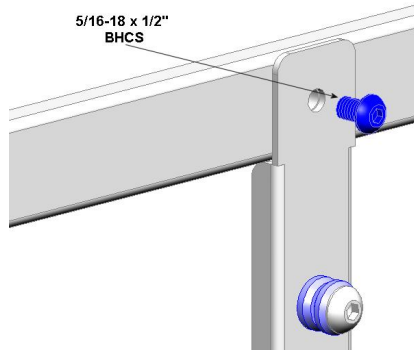
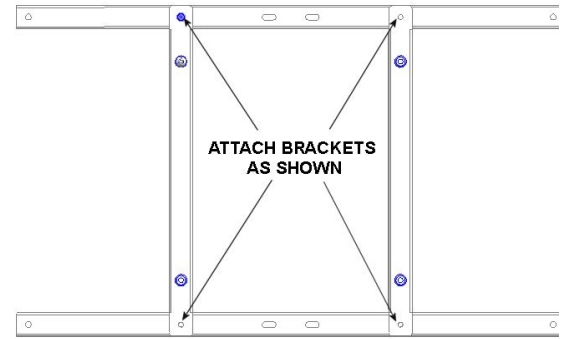

Figure 3
Figure 4
2. Attach the uprights to the upper and lower brackets using the 5/16-18 x 1/2" BHCS (see Figure 3 and Figure 4). Do not fully tighten until the brackets are attached to the screen.